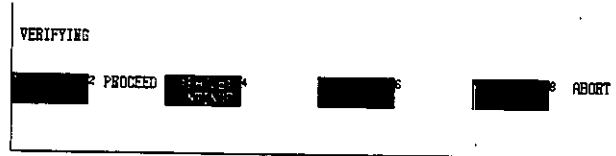

Figure 6.342
- 8) Verify is executed. (Note (1))
Note (1) If Stop is selected while verifying is in progress, the process will stop temporarily and the screen shown in *Figure 6.342* will be displayed.